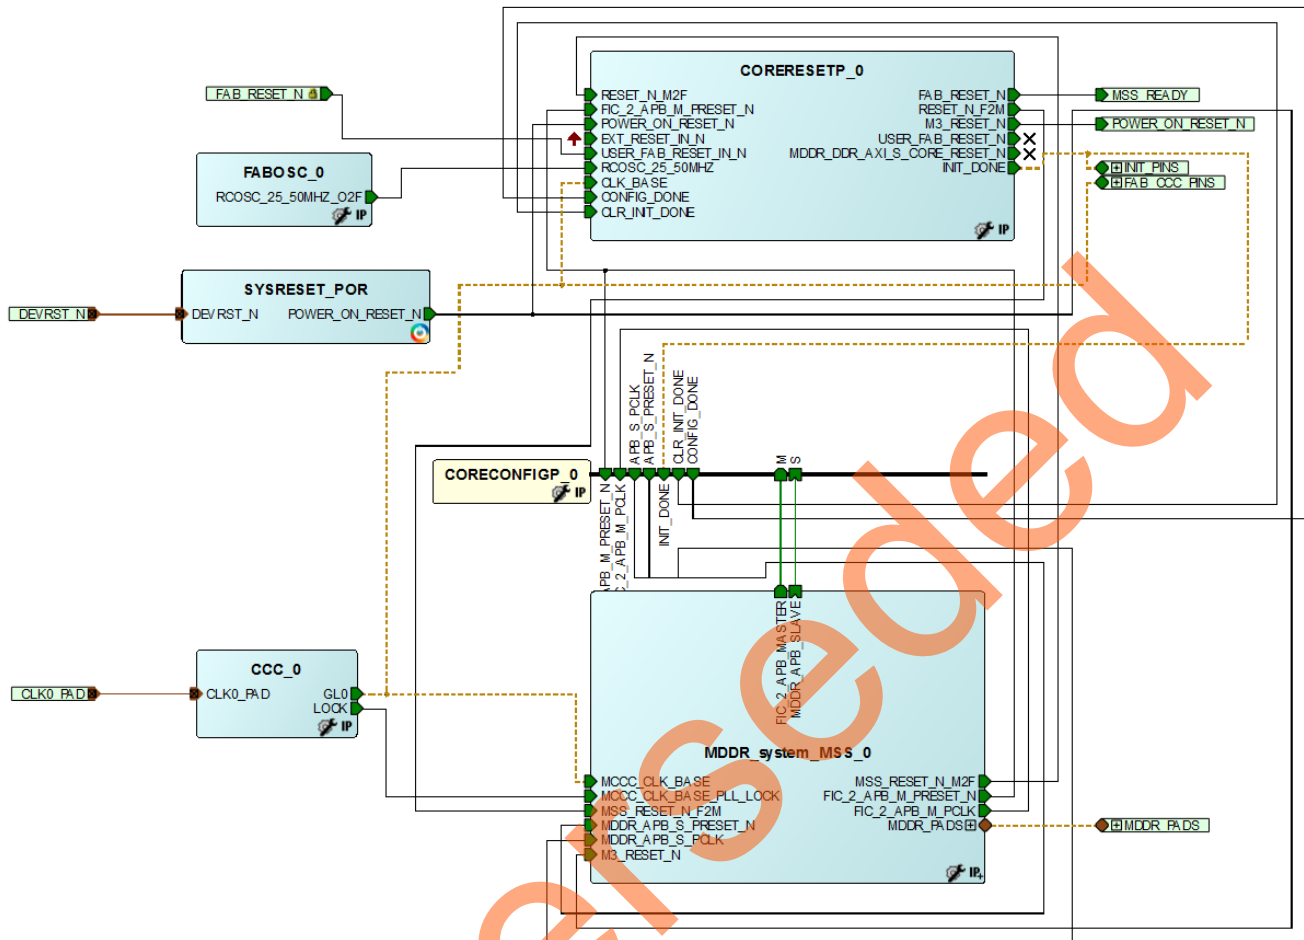

Figure 12. System Builder Generated System Opened in the SmartDesign
- Click **OK**. The entire system will be shown in the SmartDesign canvas, as shown in Figure 12.